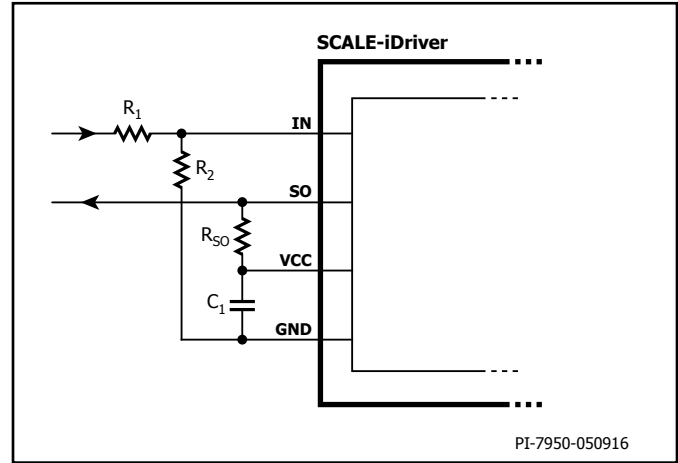
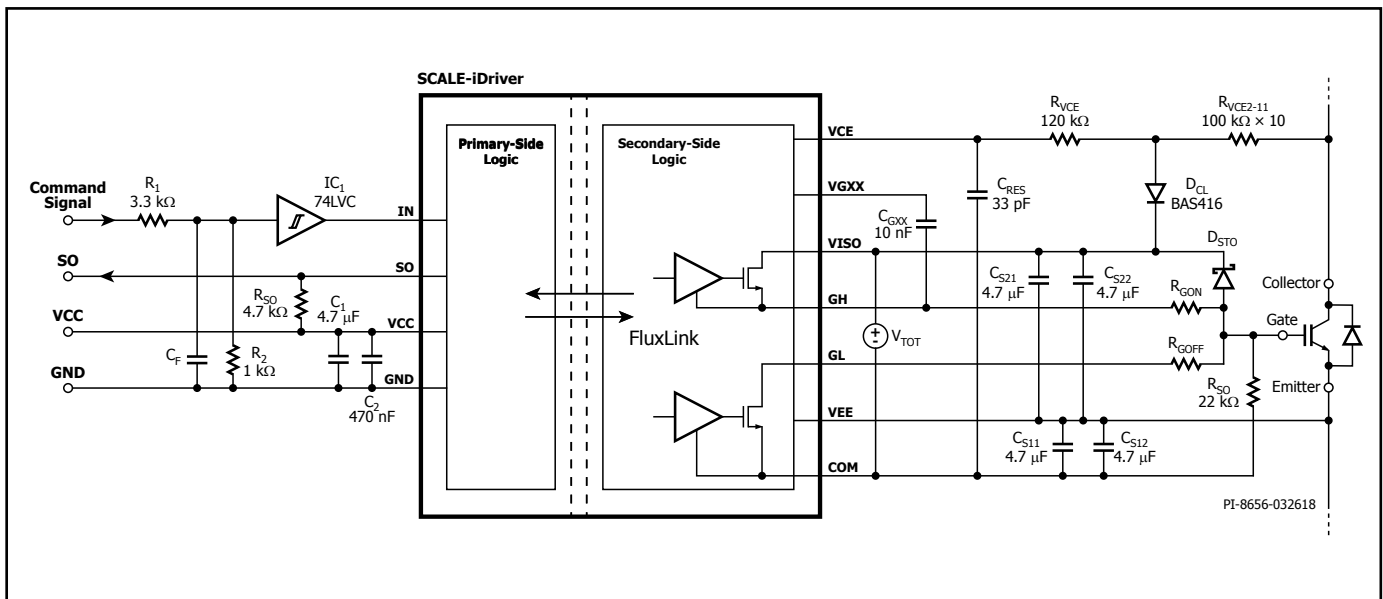

Figure 5. Increased Threshold Voltages V_{IN+LT} and V_{IN+HT} For $R_1 = 3.3 \text{ k}\Omega$ and $R_2 = 1 \text{ k}\Omega$ the IN Logic Level is 15 V.
Figure 13. SCALE-iDriver Application Example Using a Resistor Network for Desaturation Detection.
The input (IN) and output (SO) logic is designed to work directly with micro-controllers using 5 V CMOS logic. If the physical distance between the controller and the SCALE-iDriver is large or if a different logic level is required the resistive divider in Figure 5, or Schmitt-trigger ICs (Figures 13 and 14) can be used. Both solutions adjust the logic level as necessary and will also improve the driver's noise immunity.
and power-down. Any supply voltage related to VCC, VISO, VEE and VGXX pins should be stabilized using ceramic capacitors C_1 , C_{S1X} , C_{S2X} , C_{GXX} respectively as shown in Figures 13 and 14. After supply voltages reach their nominal values, the driver will begin to function after a time delay t_{START} .
Figures 13 and 14 show the schematic and typical components used for a SCALE-iDriver design. In both cases the primary-side supply voltage (V_{VCC}) is connected between VCC and GND pins and supported through a supply bypass ceramic capacitor C_1 (4.7 μ F typically). If the command signal voltage level is higher than the rated IN pin voltage (in this case 15 V) a resistive voltage divider should be used. Additional capacitor C_f and Schmitt trigger IC₁ can be used to provide input signal filtering. The SO output has 5 V logic and the R_{SO} is selected so that it does not exceed absolute maximum rated I_{SO} current.
Figure 13 shows how switch desaturation can be measured using resistors $R_{VCE2} - R_{VCE11}$. In this example all the resistors have a value of 100 kΩ using 1206 package. The total resistance is 1 MΩ. The resistors should be chosen to limit current to between 0.6 mA to 0.8 mA at maximum DC-link voltage. The sum of $R_{VCE2} - R_{VCE11}$ should be approximately 1 MΩ for 1200 V semiconductors and 500 kΩ for 600 V semiconductors. In each case the resistor string must provide sufficient creepage and clearance distances between collector of the semiconductor and SCALE-iDriver. The low leakage diode D_{CL} keeps the short-circuit duration constant over a wide DC-link voltage range.
Table 2. PCB Layout and Component Guidelines Referring to Figure 13.
Table 2 (cont). PCB Layout and Component Guidelines Referring to Figure 13.